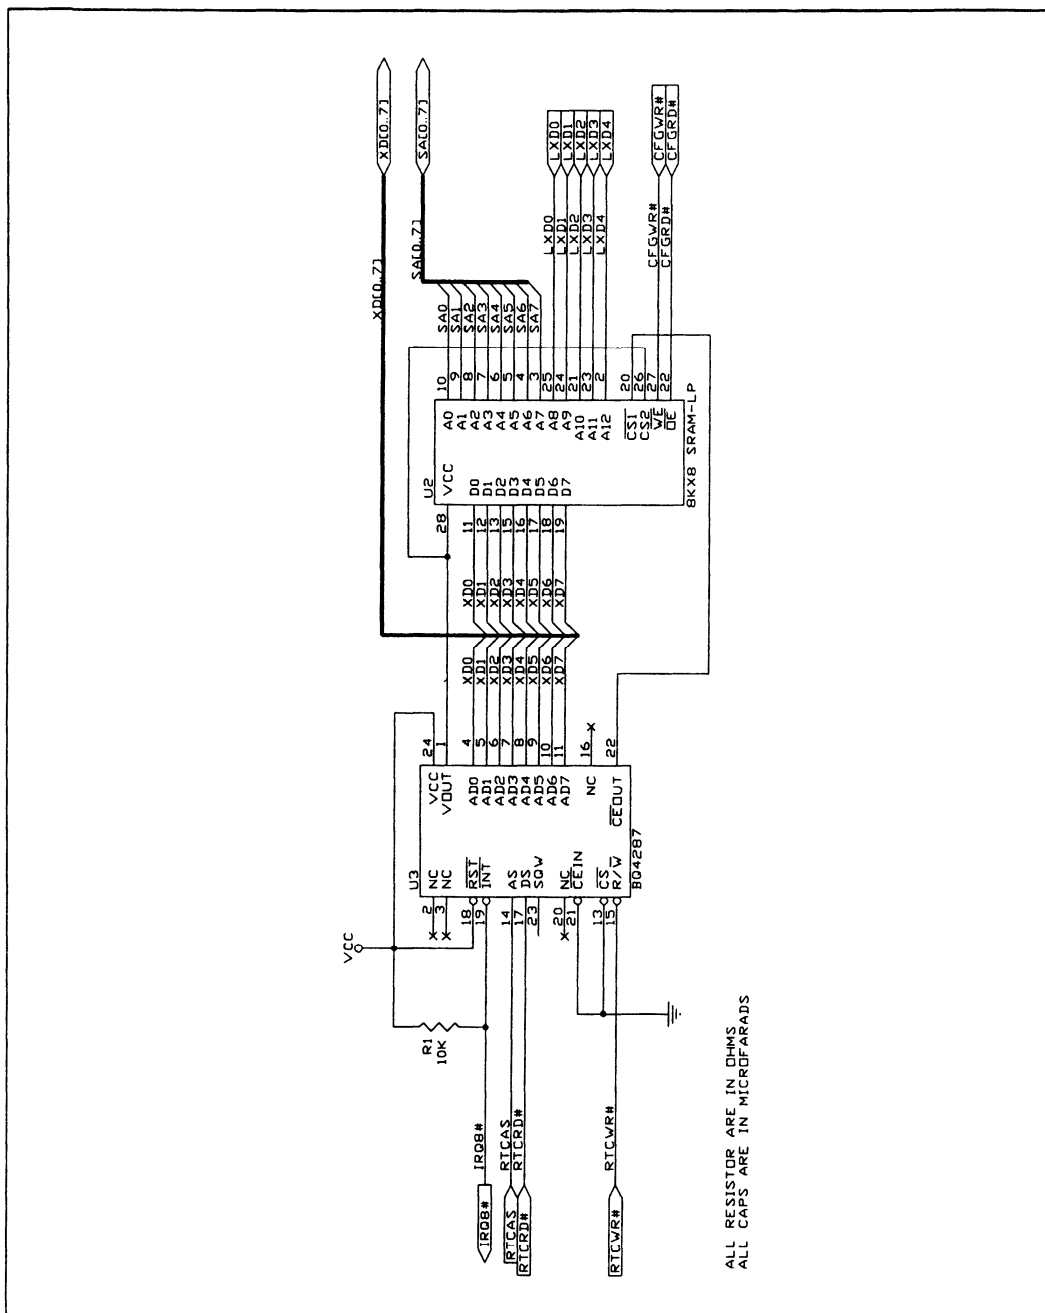

Figure 8. bq4287 EISA or MCA Example
**Table 9. bq4287 EISA or MCA Parts List (Figure 8)**